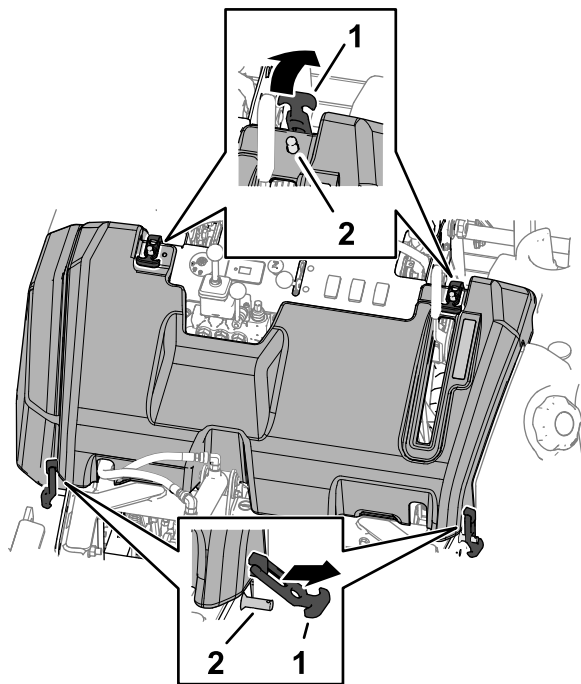

Figure 63
1. Pull the latches up and off the 4 latch pins (Figure 63).